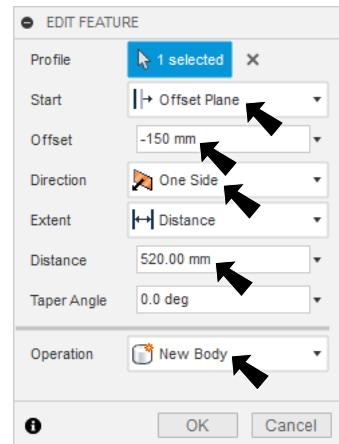

Fig. 9
Step 16. In the Extrude panel set, Fig. 9